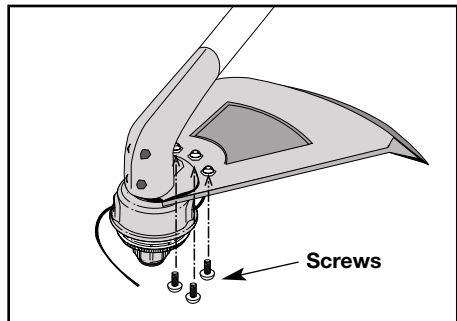

Fig. 4
3. Install the screws into the holes from the bottom of the guard (Fig. 4).